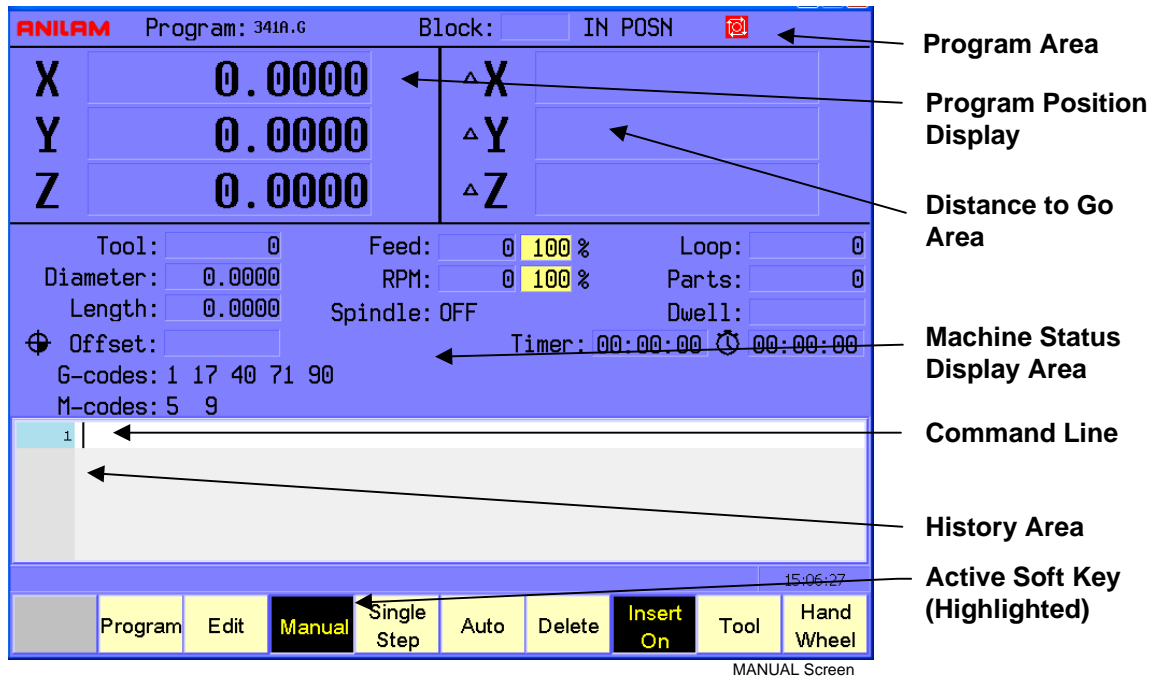

Figure 3-7, Manual Screen
5. Select **Manual (F4)** to display the Manual screen (refer to **Figure 3-7, Manual Screen** for illustration with callouts). Refer to **Table 3-3, Manual Screen Soft Keys**.
In Manual Mode, the CNC displays the Manual screen. The Manual screen is the basic operating screen and is displayed when the CNC is turned on. All other operating screens are similar in appearance and selected from the Manual screen soft keys. When the Manual Mode is active, the **Manual (F4)** soft key label highlights. Refer to **Figure 3-7**.